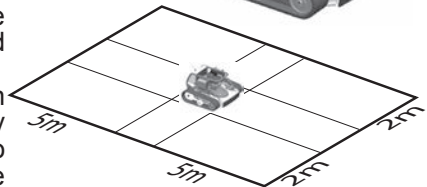

Fig 19 - Zone de danger
- b) Do not allow any people or animal to approach the machine. A miscontrol of the drive can cause severe injury to the people or some object can be thrown out from the mower blade and hit somebody. The **danger area** is shown in Fig 19.